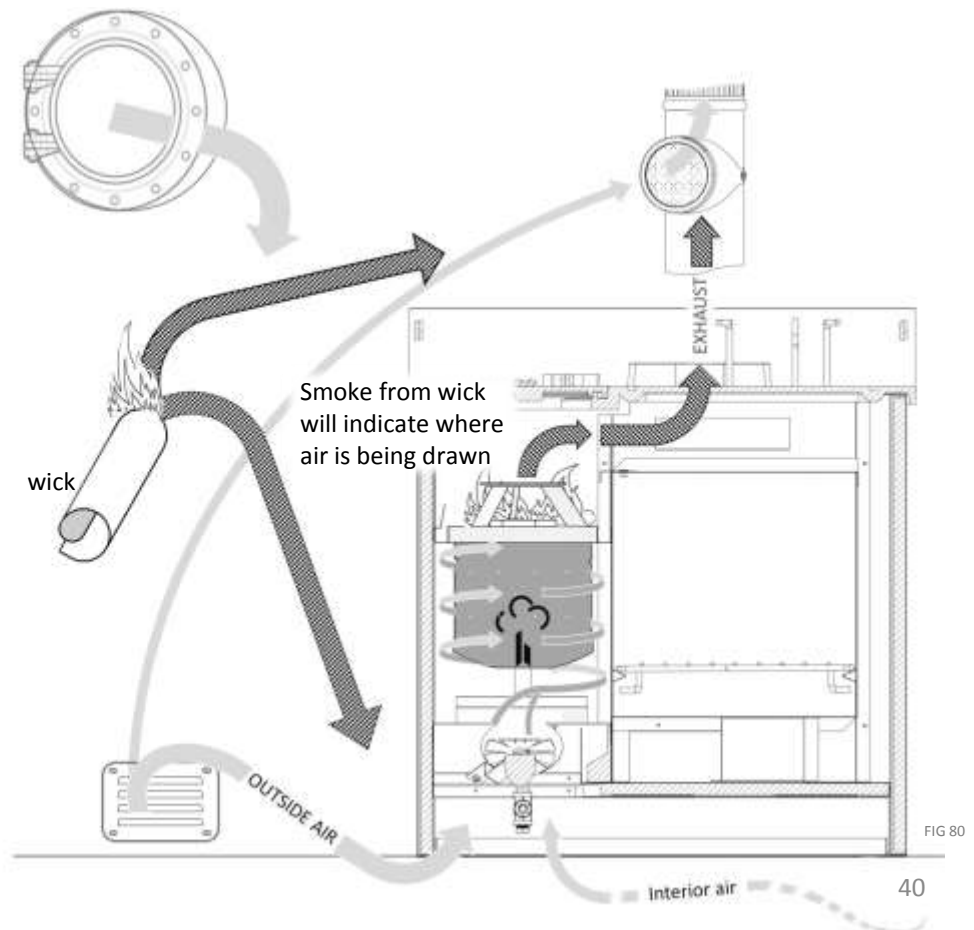

FIG 80
- Test the cabin for positive pressure (see page 40, fig 80 for draft test)